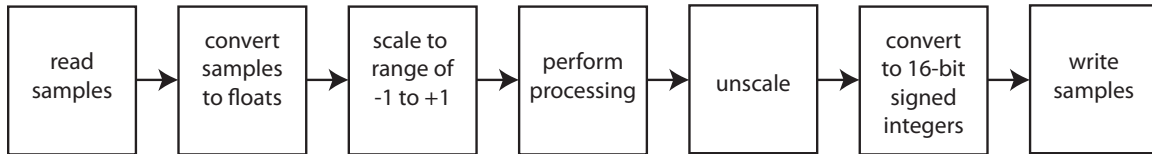

Figure 1: Typical steps when processing samples from the AIC23 codec
1. Squaring the samples on the left input channel is a little bit more complicated than simply multiplying the sample by itself because you are likely to get overflow in the 16-bit signed integer datatype (with range -32768 to +32767) if you do this directly. Instead, consider the processing steps shown in Figure 1. By pre-scaling the samples (and converting to floats), the samples remain in the range $[-1, +1]$ after squaring. Unscaling and conversion to signed integers is necessary before writing the modified samples to the AIC23 codec.